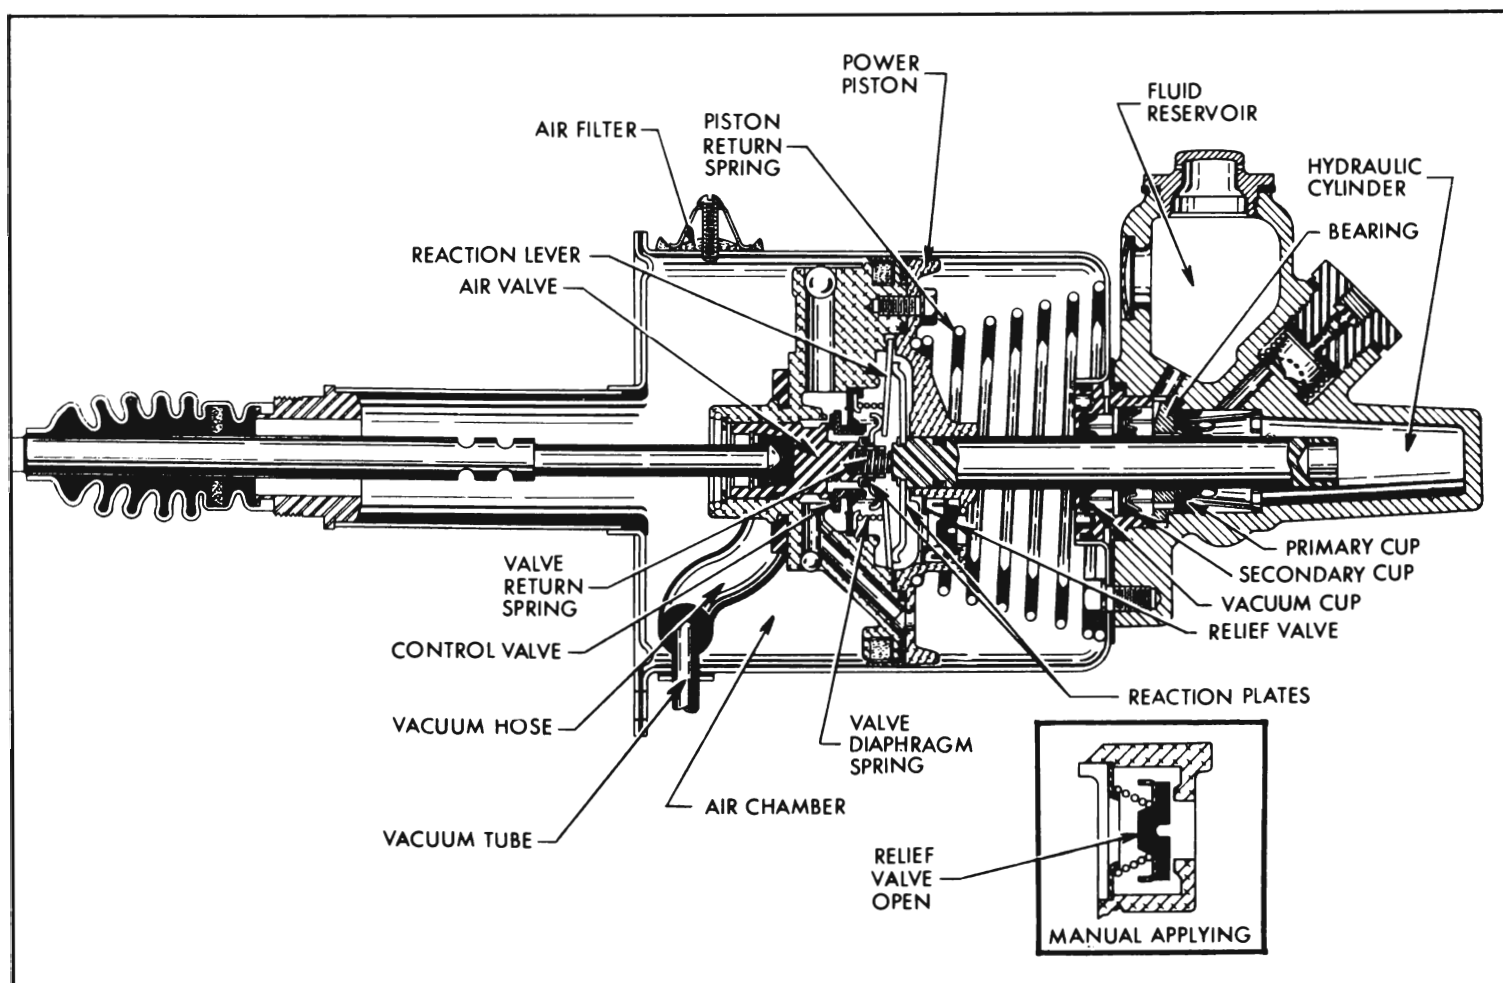

Figure 9-14—Applying
(2) *Applying.* See figure 9-14. As the brake pedal is depressed the push rod moves the air valve until its annular seat contacts the floating control valve, at which point atmospheric pressure is sealed off from the *vacuum* chamber. Further movement of the air valve pushes the floating control valve away from its annular seat on the power piston, thus connecting the vacuum chamber to manifold *vacuum* through a passage in power piston and the attached vacuum hose. As air is exhausted out of the *vacuum* chamber, atmospheric pressure in the *air* chamber moves the power piston forward toward the hydraulic cylinder. The valve and hydraulic piston move forward as a unit with the power piston.
(3) *Reaction Pressure.* As pressure is built up in the brake pipes and wheel cylinders during brake application, the hydraulic piston is subjected to the same pressure. Since the hydraulic piston is free to move rearward in the power piston, the pressure on the piston is transmitted through the attached reaction plate to the six reaction levers. The outer ends of the levers press against pivot points in the power piston and the inner ends press against the valve reaction plate which now bears against a shoulder of the air valve. See figure 9-14.
(6) *Manual Applying.* When the engine is not running and all reserve vacuum is exhausted, the brakes are applied entirely by foot pressure on the brake pedal. As the pedal is depressed, the air valve and control valve move first. A shoulder on the air valve then contacts the end of the hydraulic piston. The hydraulic piston moves into the hydraulic cylinder, causing the brakes to be applied in the usual way. However, the pedal pressure for a given brake application is considerably greater. See figure 9-14.